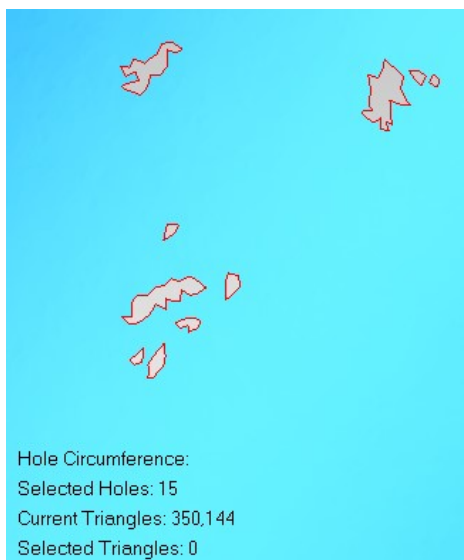

Figure 93
- Zoom** to the area with the small holes shown in **Figure 93**. In the **Hole Selection** roll-up group of the **Fill All** dialog toggle on the **Maximum Circumference** parameter by placing a check in the checkbox. The numeric field below it will become active.